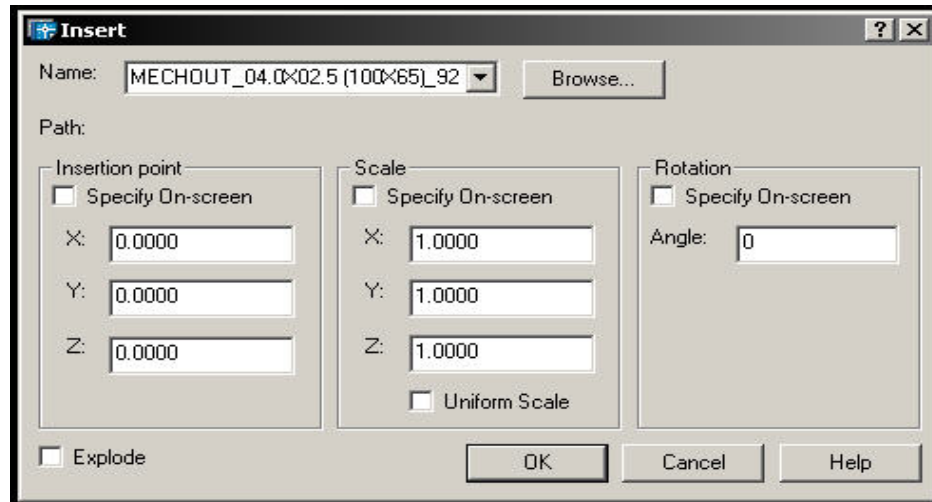

Fig. 6
There are two (2) ways to insert the desired block. You can “drag and drop” the block into the drawing or double-click the block to bring up the **Block Insertion** dialog box (Fig. 6).